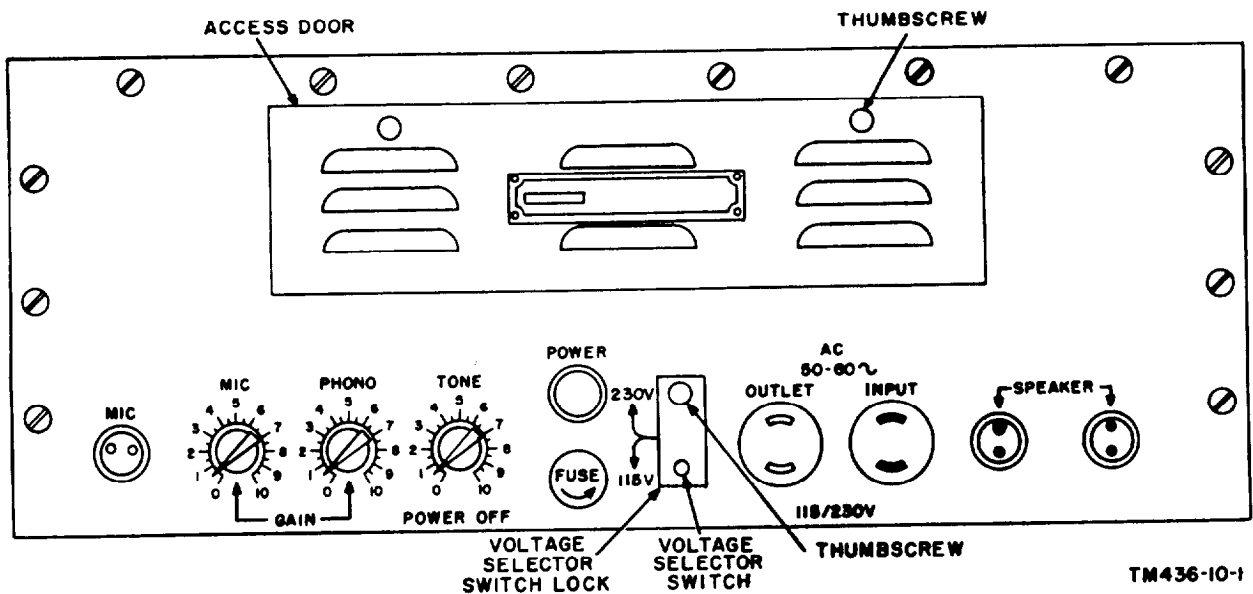
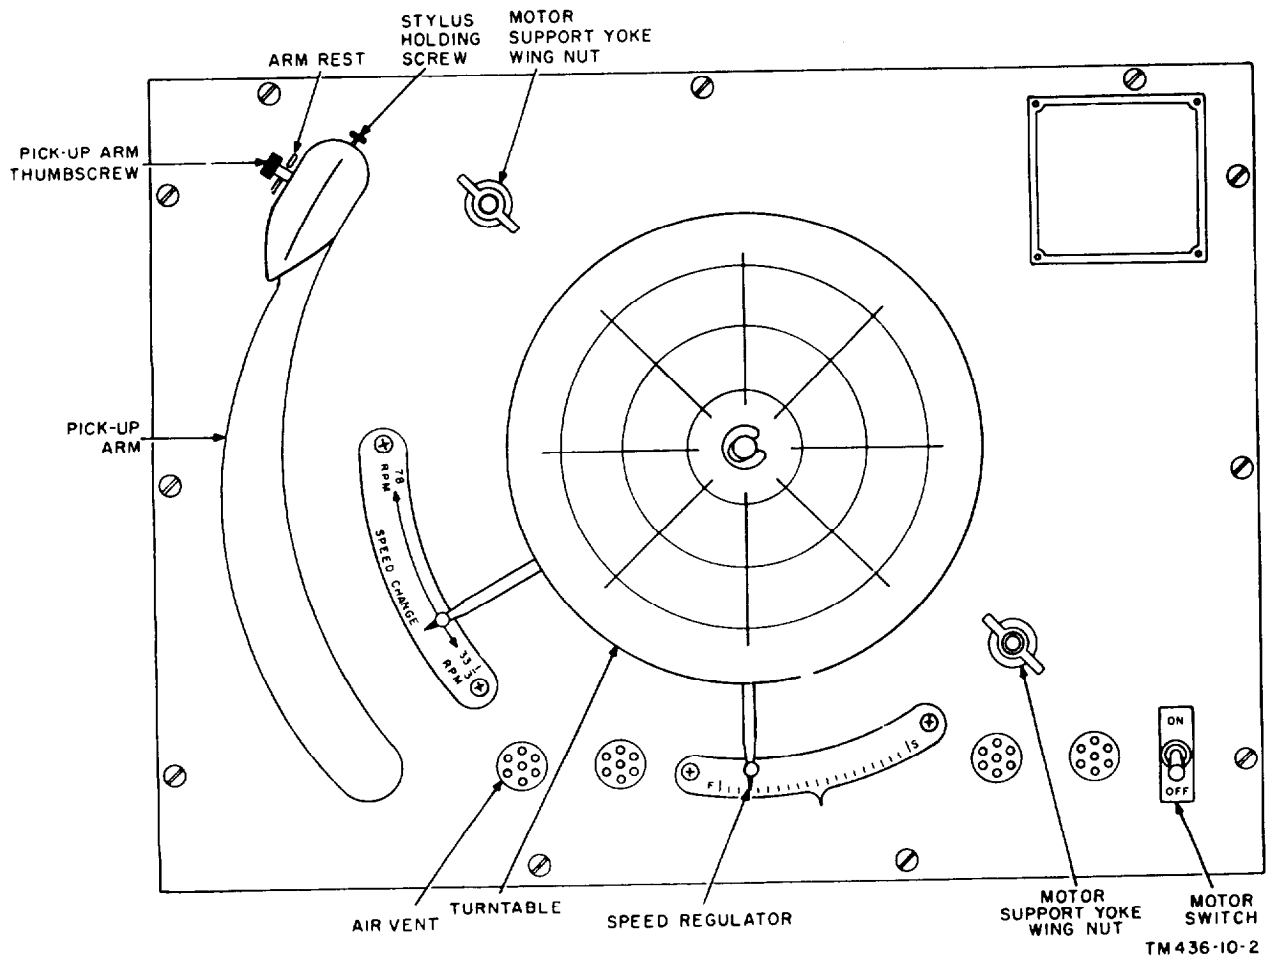
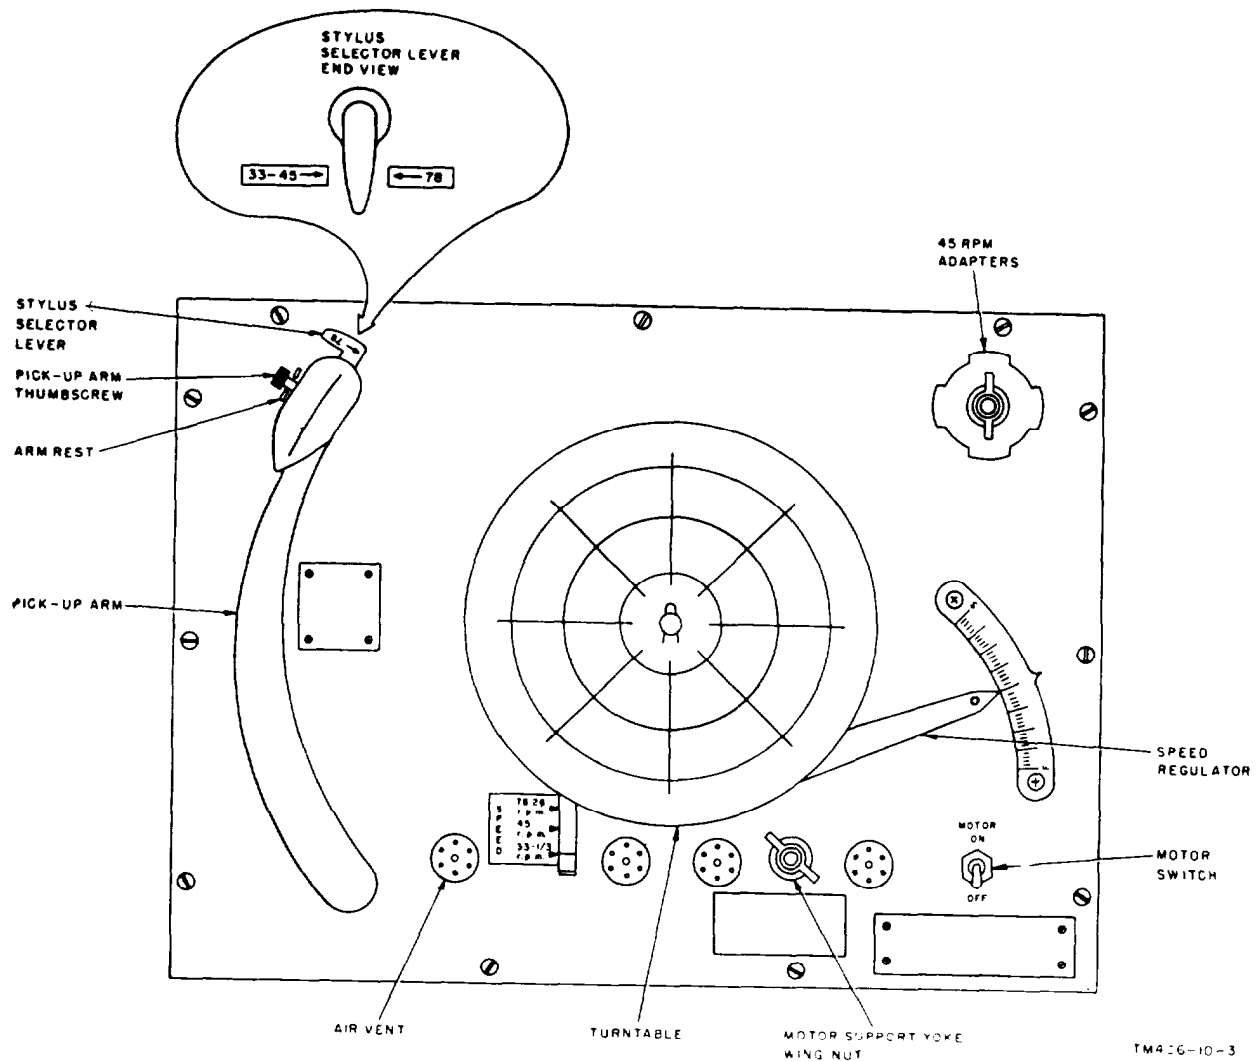

Figure 4. Reproducer, front view.
Figure 5. MX-932/U, top view.
Figure 6. RP-104/UIH-2, top view.
POWER indicator (fig. 4).	When lighted, indicates power is applied to reproducer.
- (1) Remove the stylus shield (RP-104 (*)/UIH-2). Loosen the pick-up arm thumbscrew (fig. 5, 6, or 7).
- (2) Turn the TONE-POWER OFF control (fig. 4) to its extreme clockwise position. The POWER indicator will light. Allow at least 1 minute for the reproducer to warm up.
- (3) Turn the PHONO control to 5 and the MIC control to 0.
- (4) Rub the thumb across the reproducing stylus (stylus) in the sound reproducer cartridge (cartridge). Clicking noises in the loudspeakers indicate that the reproducer is ready for use.
- (5) Move the motor switch (fig. 5, 6, or 7) to ON.
- (6) Move the speed change control to the desired revolution; per minute (rpm) position. In the RP-104(*)/UIH-2, also move the stylus selector lever (fig. 6 or '7) to the desired rpm position.
- (1) Place a record on the turntable (fig. 5, 6, or 7).
- (2) Remove the pick-up arm from the arm rest and gently place the stylus in the lead-in groove or at any other selected point on the record.
- (3) If necessary, readjust the PHONO control (fig. 4) for the volume level desired. Volume will depend on the size of the audience and the auditorium (or other area).
- (4) Turn the TONE-POWER OFF control slowly counterclockwise until the desired tone quality is obtained.
- (5) When the record reproduction is complete, do not allow the stylus to ride in the last groove longer than necessary. Gently lift the pick-up arm and replace it on the arm rest.
- (6) If another record is to be reproduced, proceed as follows:
- (c) Follow the procedures given in (2) through (5) above.
- (1) Move the motor switch (fig. 5, 6, or 7) to OFF.
- (2) Remove the record from the turntable. If a 45-rpm record has been used (RP-104 (*)/UIH-2) remove the 45-rpm adapter and replace it on the holding bolt (fig. '7).
- (3) Secure the pick-up arm to the arm rest. Replace the stylus shield (RP-104 (*)/UIH-2).
- (4) Turn the TONE-POWER OFF control (fig. 4) to 0. The POWER indicator will go out.
- (5) Turn the PHONO control to 0.
- (1) Turn the TONE-POWER OFF control (fig.4) to its extreme clockwise position. The POWER indicator will light. Allow at least 1 minute for the reproducer to warm up.
- (2) Turn the PHONO control to 0.
- (3) Turn the MIC control to 0.
- (4) Perform the following while speaking into the microphone :
- (1) Readjust the MIC control (fig. 4) as necessary to obtain the desired output volume. Volume will depend on the voice of the speaker, the size of the audience, and the auditorium (or other operating area).
- (2) Readjust the TONE-POWER OFF control to obtain the desired tone output.
- (3) Make any necessary volume and tone adjustments while the microphone is being used.
- (1) Start the playback operation (par. 11b(1) through (4)) and have the microphone user talk in a low voice.
- (2) During mixer operation, adjust the MIC and PHONO controls (fig. 4) for any of the following.
- (3) To change a record in the course of the mixer operation, gently lift the pick-up arm and replace it on the arm rest.
- (a) Move the motor switch (fig. 5, 6, or 7) to OFF.